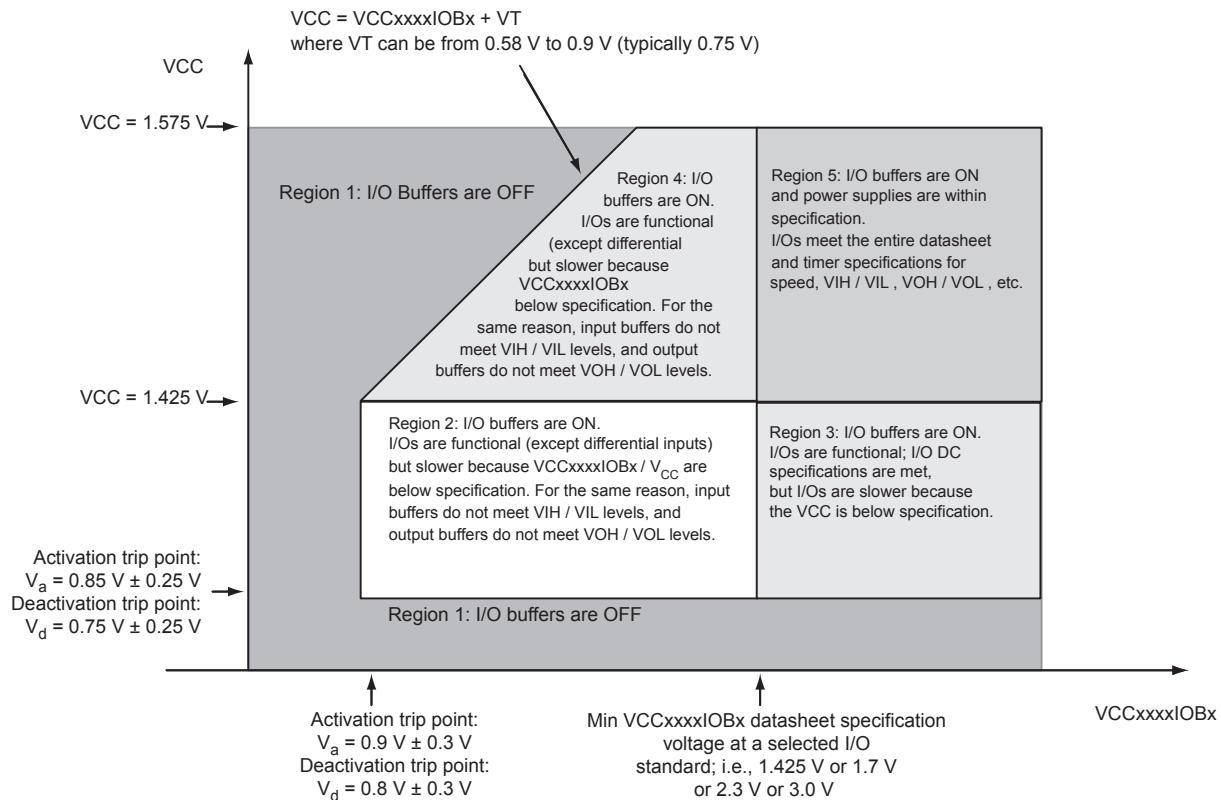

Figure 2-1 • I/O State as a Function of $VCCxxxxIOBx$ and VCC Voltage Levels
Sophisticated power-up management circuitry is designed into every SmartFusion cSoC. These circuits ensure easy transition from the powered-off state to the powered-up state of the device. In addition, the I/O will be in a known state through the power-up sequence. The basic principle is shown in Figure 2-1 on page 2-6.
1. VCC and VCCxxxxIOBx are above the minimum specified trip points (Figure 2-1 on page 2-6).
The Microsemi SoC Products Group recommends using monotonic power supplies or voltage regulators to ensure proper power-up behavior. Power ramp-up should be monotonic at least until VCC and VCCPLLx exceed brownout activation levels. The VCC activation level is specified as 1.1 V worst-case (see Figure 2-1 on page 2-6 for more details).